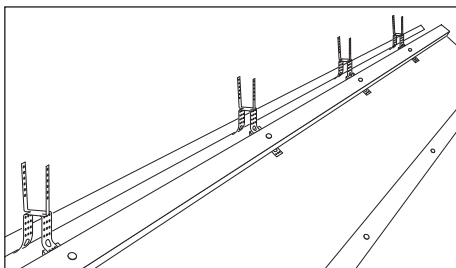

Fig. 2
- 2 Fix the top course tiling battens into position, over the ridge batten brackets, leaving approximately 45mm between the rafter apex and the tiling batten to ensure 75mm of ridge tile overlap (Fig. 2).